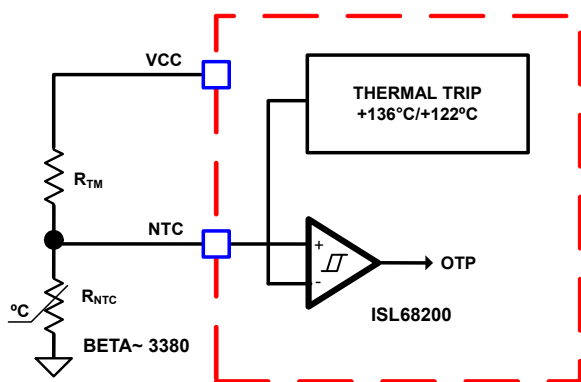
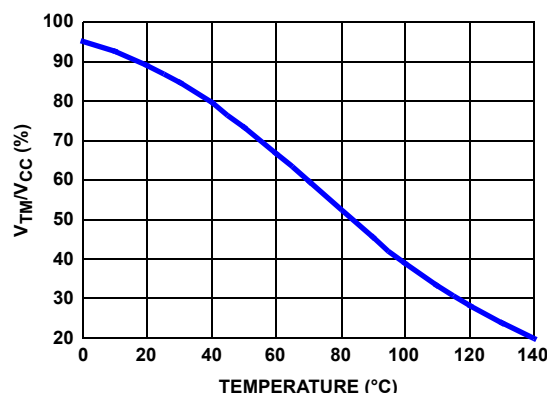

FIGURE 16. BLOCK DIAGRAM OF THERMAL MONITORING AND PROTECTION
FIGURE 18. THE RATIO OF TM VOLTAGE TO NTC TEMPERATURE WITH RECOMMENDED PART
The block diagram of thermal monitoring function is shown in Figure 16 on page 18. One NTC resistor should be placed close to the respective power stage of the voltage regulator VR to sense the operational temperature and pull-up resistors are needed to form the voltage dividers for the NTC pin. As the temperature of the power stage increases, the resistance of the NTC will reduce, resulting in the reduced voltage at the NTC pin. Figure 18 on page 18 shows the TM voltage over the temperature for a typical design with a recommended 10k Ω NTC (P/N: NCP15XH103J03RC from Murata, $\beta = 3380$) and 1.54k Ω resistor R_{TM} . It is recommended to use those resistors for the accurate temperature compensation since the internal thermal digital code is developed based upon these two components. If a different value is used, the temperature coefficient must be close to 3380 and R_{TM} must be scaled accordingly. For instance, say NTC = 20k Ω ($\beta = 3380$), then R_{TM} should be $20\text{k}\Omega/10\text{k}\Omega \cdot 1.54\text{k}\Omega = 3.08\text{k}\Omega$.
to the NTC temperature of the practical design should be similar to that in Figure 18.
1. Properly choose the voltage divider for the NTC pin to match the NTC voltage vs temperature curve with the recommended curve in Figure 18 on page 18.
As shown in Figure 16, there is a comparator with hysteresis to compare the NTC pin voltage to the threshold set. When the NTC pin voltage is lower than 22.31% of VCC voltage (typically +136 °C), it triggers Over-Temperature Protection (OTP) and shuts down ISL68200 operation, when the NTC pin voltage is above 27.79% of VCC voltage (typically +122.4 °C), it will resume normal operation. When an OTP fault is declared, the controller will force the LGATE and UGATE gate-driver outputs low.